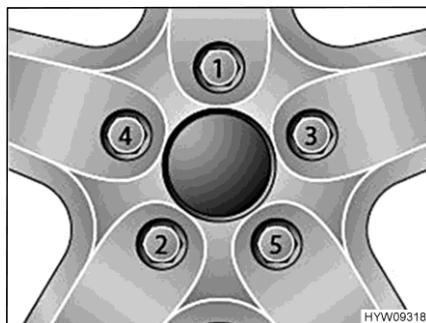

Fig. 82 Tightening the wheel nuts or wheel bolts cross-wise
- Tighten the wheel nuts or wheel bolts in the order shown in Fig. 82. In order to do this, use a torque wrench and comply with the specified tightening torque (see section 14.5).
- Check regularly that the wheel nuts or wheel bolts are firmly seated. Retighten the wheel nuts or wheel bolts of a changed wheel after 50 km (30 miles). While doing so, proceed in the order shown in Fig. 82.
- When using new or newly painted rims, re-tighten the wheel nuts or wheel bolts once again after approx. 1,000 to 5000 km (600 miles to 3,000 miles). While doing so, proceed in the order shown in Fig. 82.